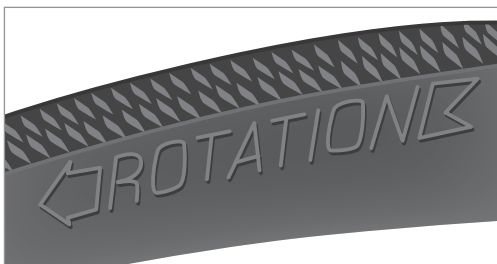

Figure 8
5. Check for tread direction markings on the tire sidewall. Orient tread direction on the rim so the tire rotates in the proper direction when installed on the bike (Fig. 8).